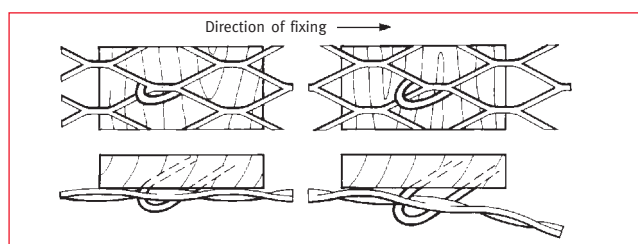

Fig. 1
- To connect to timber grounds use 38x2mm plasterer's nails or galvanised staples at 100mm centres. Start at the centre of the sheet and work out towards the edges, always fix at an angle (see fig 1 & 2) to allow lath to be pulled tight.